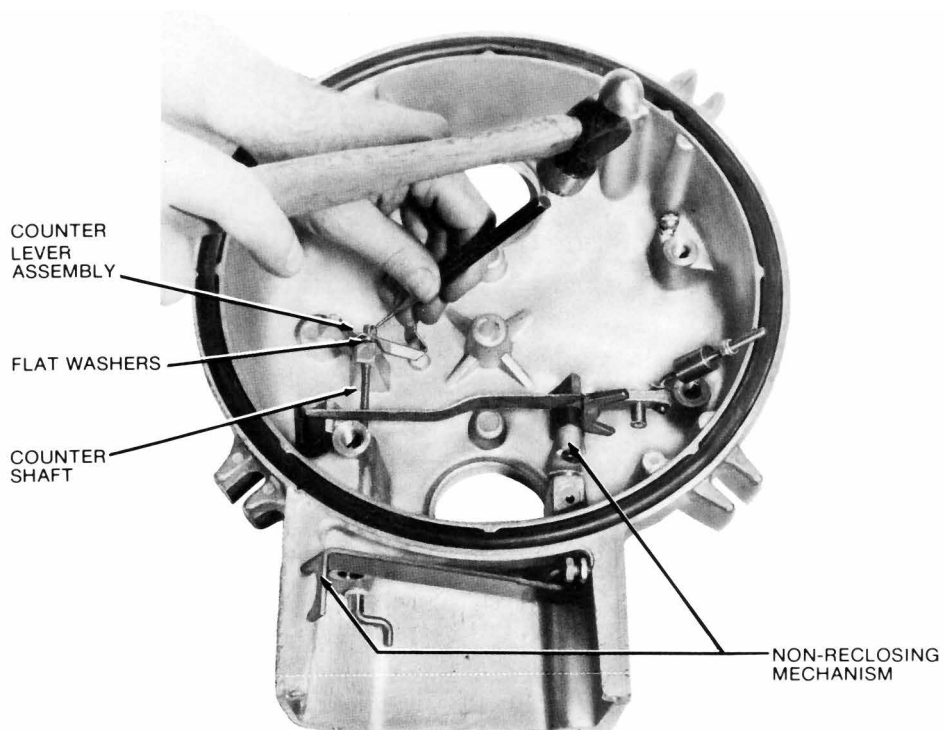

Figure 37. Driving out pins in counter shaft
8. Drive out the rollpin that secures the counter lever assembly to the counter shaft as illustrated in Figure 37. Pullout the shaft. Note the flat washer that separates the counter lever assembly and a post in the head casting.